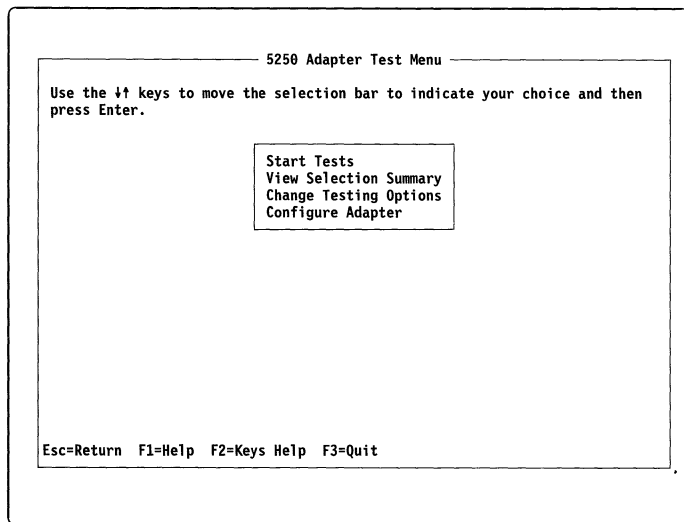

Figure 7. 5250 Emulation Adapter Test Menu
- If your Adapter Support Diskette was configured before, the 5250 Emulation Adapter Test Menu (similar to the one shown in Figure 7 on page 17) appears. Continue with step 2 under “Testing the Adapter” on page 16.
2. Press Enter. The 5250 Emulation Adapter Test Menu, similar to the one shown in Figure 7, appears.